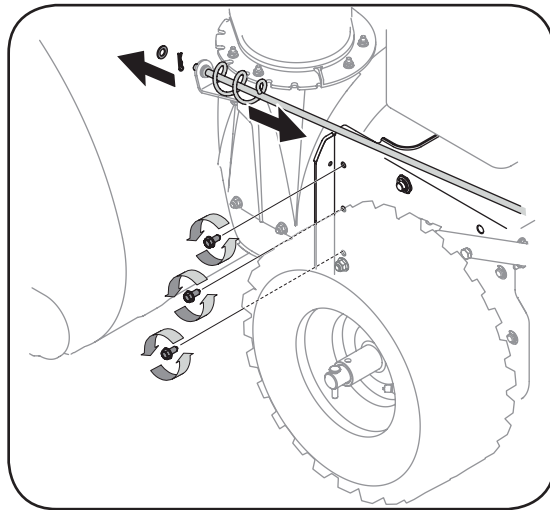

Figure 28
8. Remove the upper bolts which attach the auger housing assembly to the frame assembly using a 1/2" wrench. Refer to Figure 28.